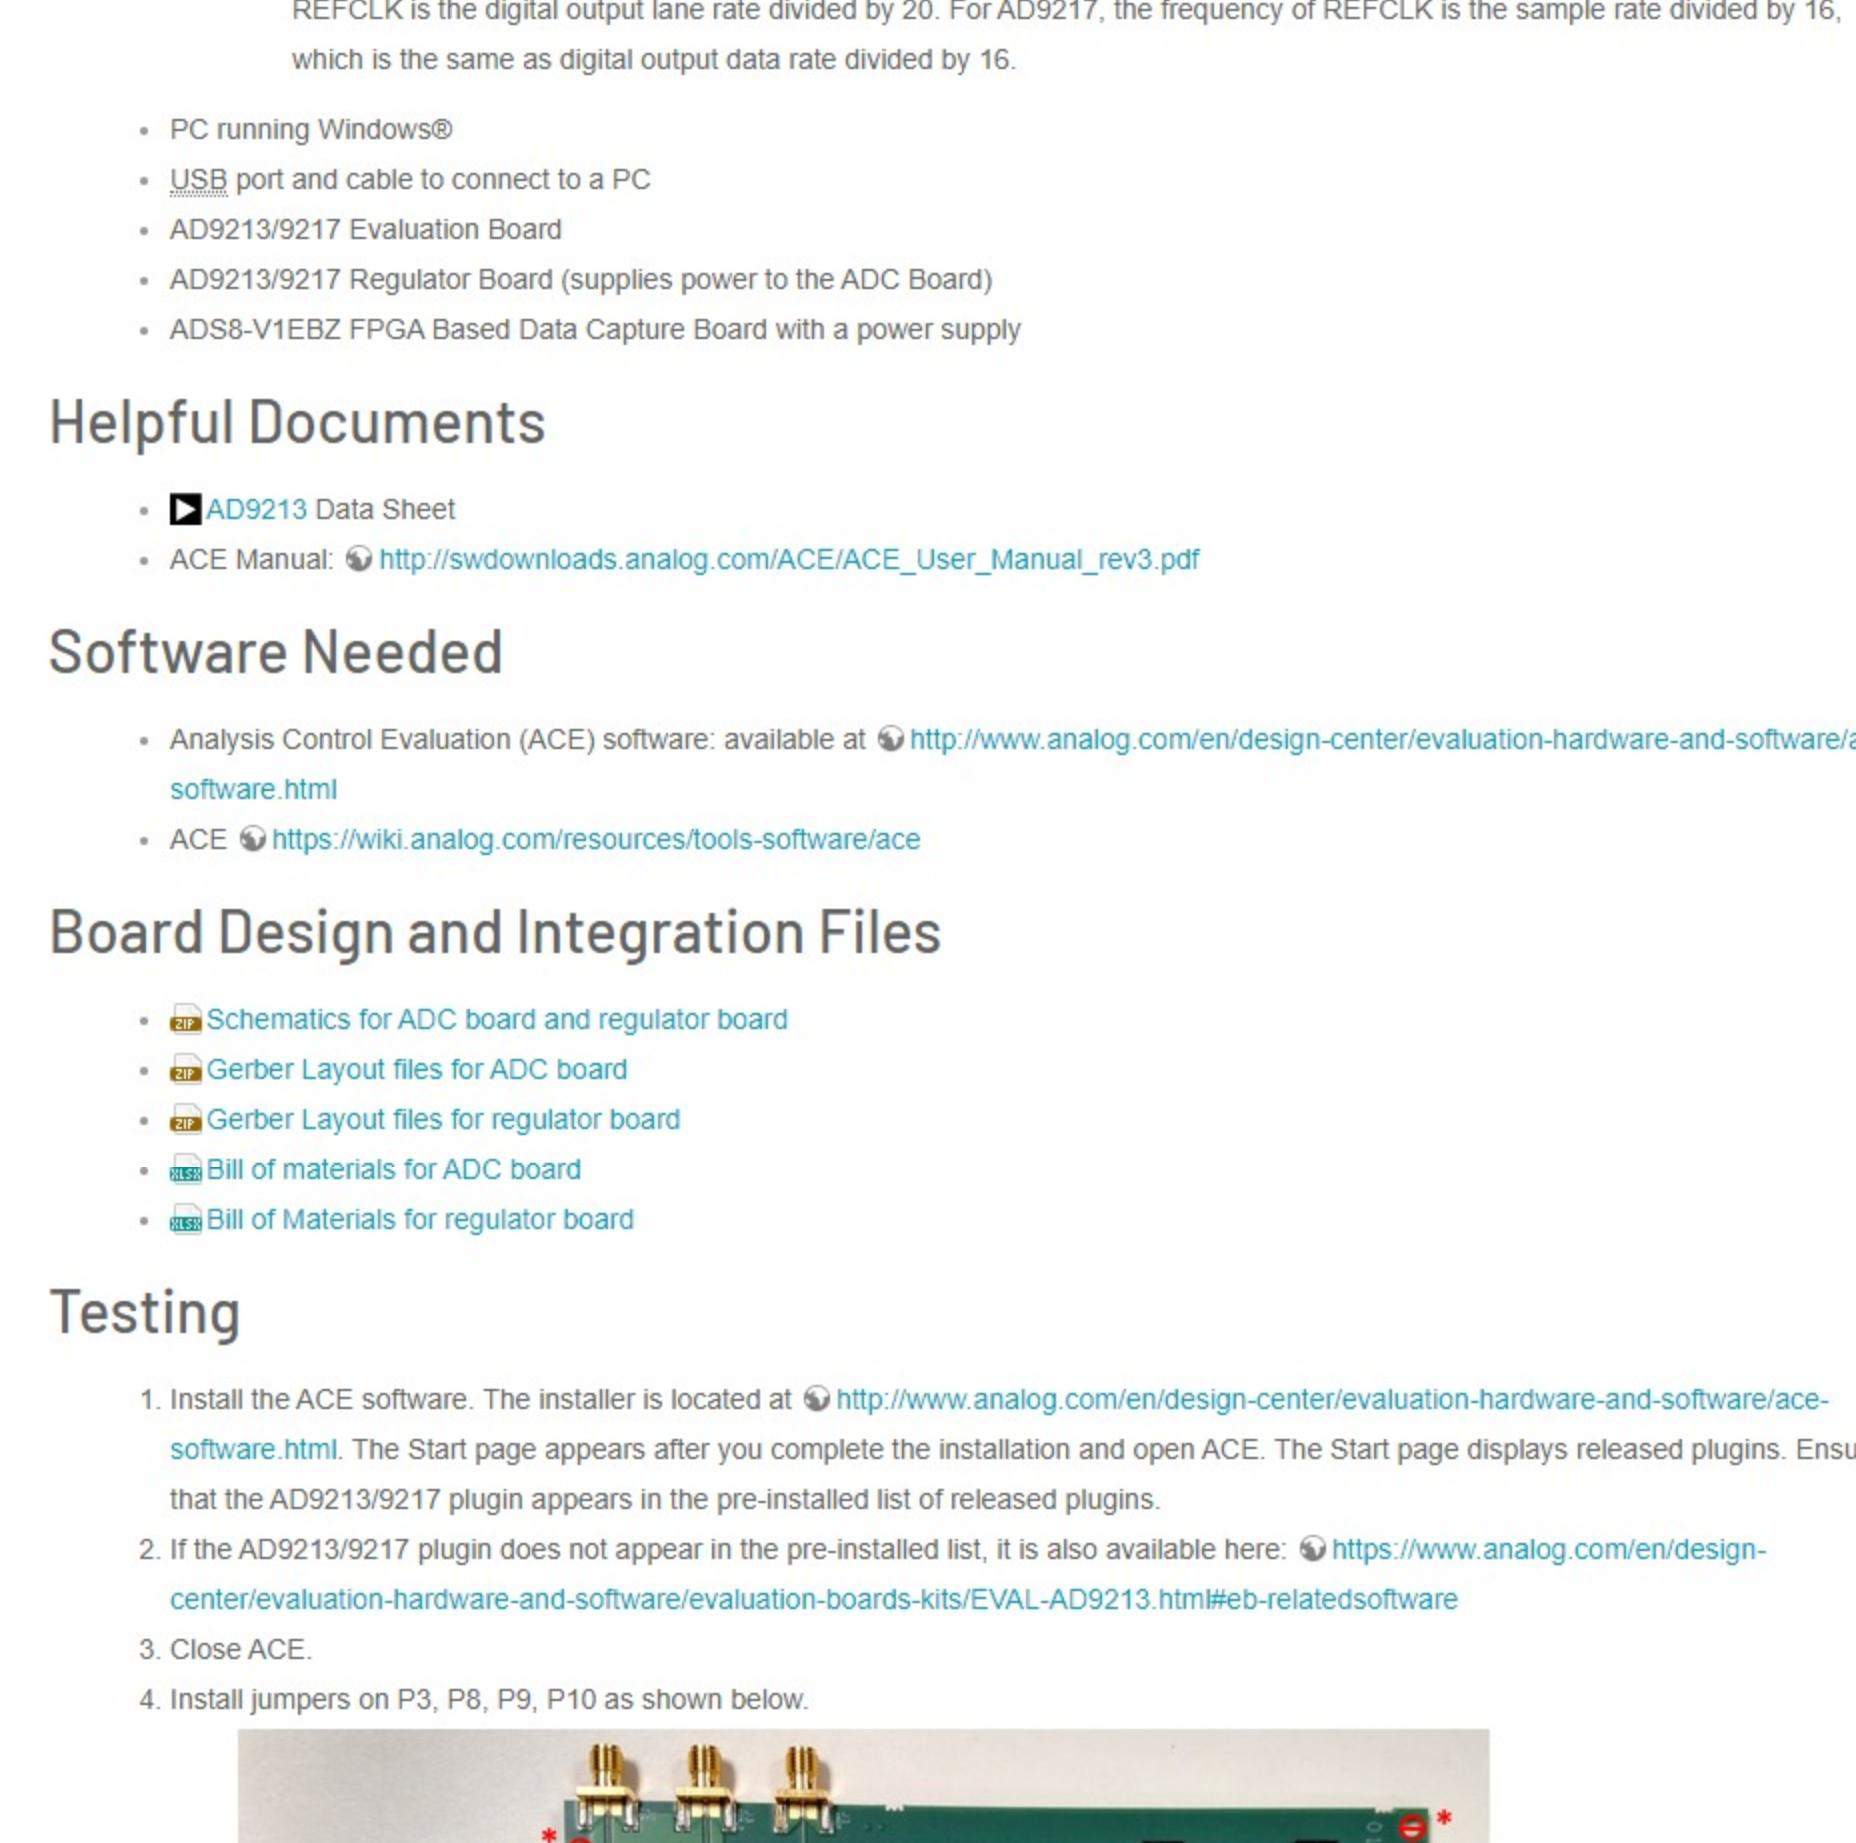

Figure 1. AD9213/9217 Evaluation Board and ADS8-V1EBZ Data Capture Board
10. Connect signal, clocks, power, and USB cables to the boards as shown in Figure 1.
- Note: In Figure 1 the input signal is shown being applied to RF connector J3. The trace from J3 goes to the balun where the single-ended signal is converted to differential. On some board revisions the trace to the balun comes from RF connector J2. In these cases, the input signal must be applied to J2.